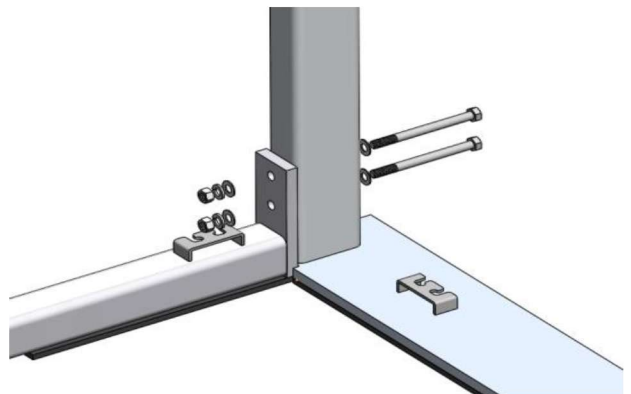

Figure 5
5. Attach the ground bar to the end frames with (2) 3/8"-16 x 4-1/2" bolts, (4) 3/8" flat washers, (2) 3/8" lock washers, and (2) 3/8"-16 hex nuts. Verify the net clips are facing toward the outside of the goal. Tighten all hardware (Fig. 5).